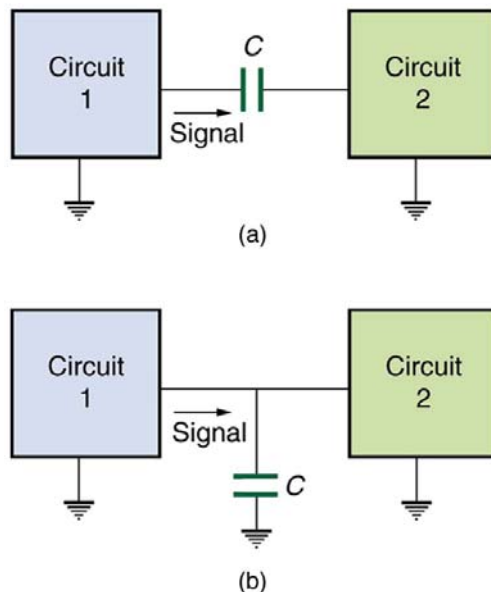

Figure 23.55 Capacitors and inductors. Capacitor with high frequency and low frequency.
27. Explain why the capacitor in **Figure 23.55(a)** acts as a low-frequency filter between the two circuits, whereas that in **Figure 23.55(b)** acts as a high-frequency filter.
28. If the capacitors in **Figure 23.55** are replaced by inductors, which acts as a low-frequency filter and which as a high-frequency filter?